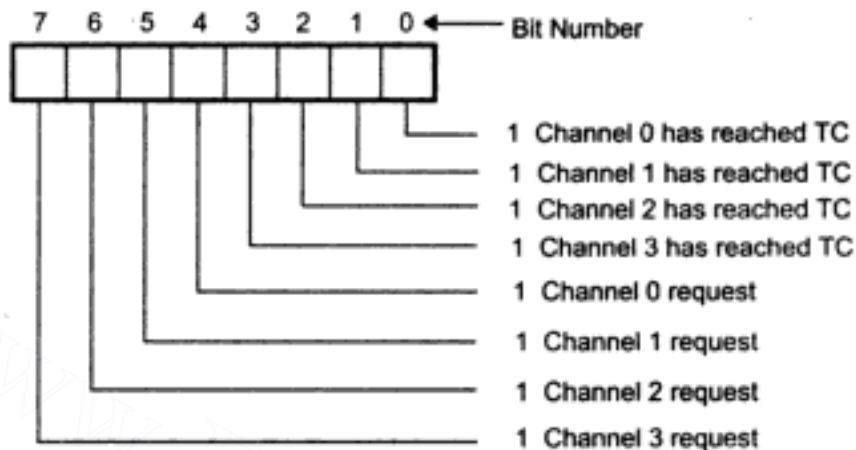

Fig. 6.22 Status register
**8. Status Register :** The status register contains the information about the status of the DMA channels. It includes which channels have reached a terminal count and which channels have pending DMA requests. The bit pattern for status register is shown in Fig. 6.22.